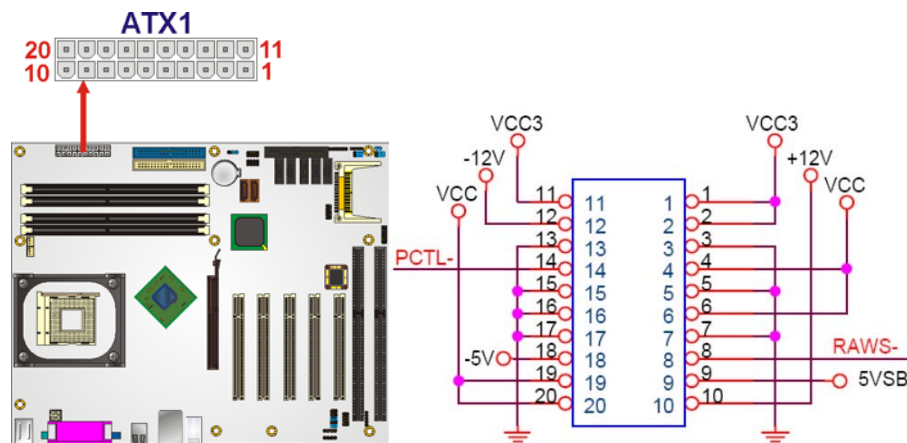

Figure 4-4: ATX Power Connector Location
- CN Location:** See **Figure 4-4**